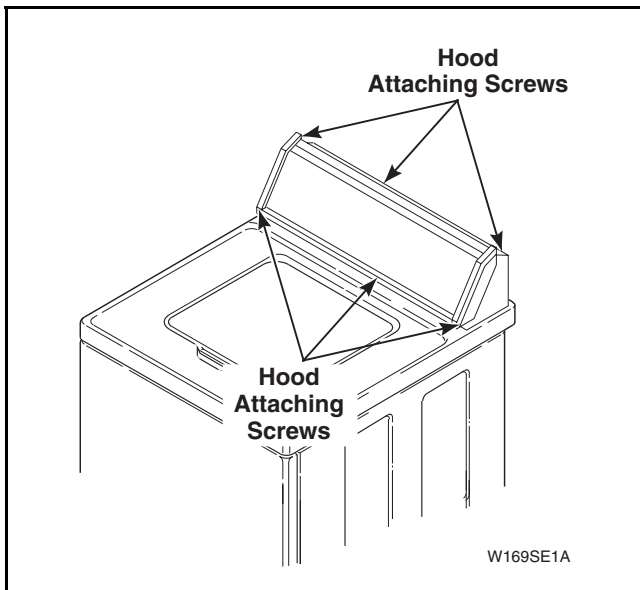

Figure 6
- Refer to *Figures 6* and *7* for switch removal.
- a. Remove six screws (3 on top and 3 at lower front) holding hood assembly to control hood rear panel and cabinet top. Refer to *Figure 6*.
- c. Remove six screws (3 on top and 3 at lower front) holding hood assembly to control hood rear panel and cabinet top. Refer to *Figure 6*.